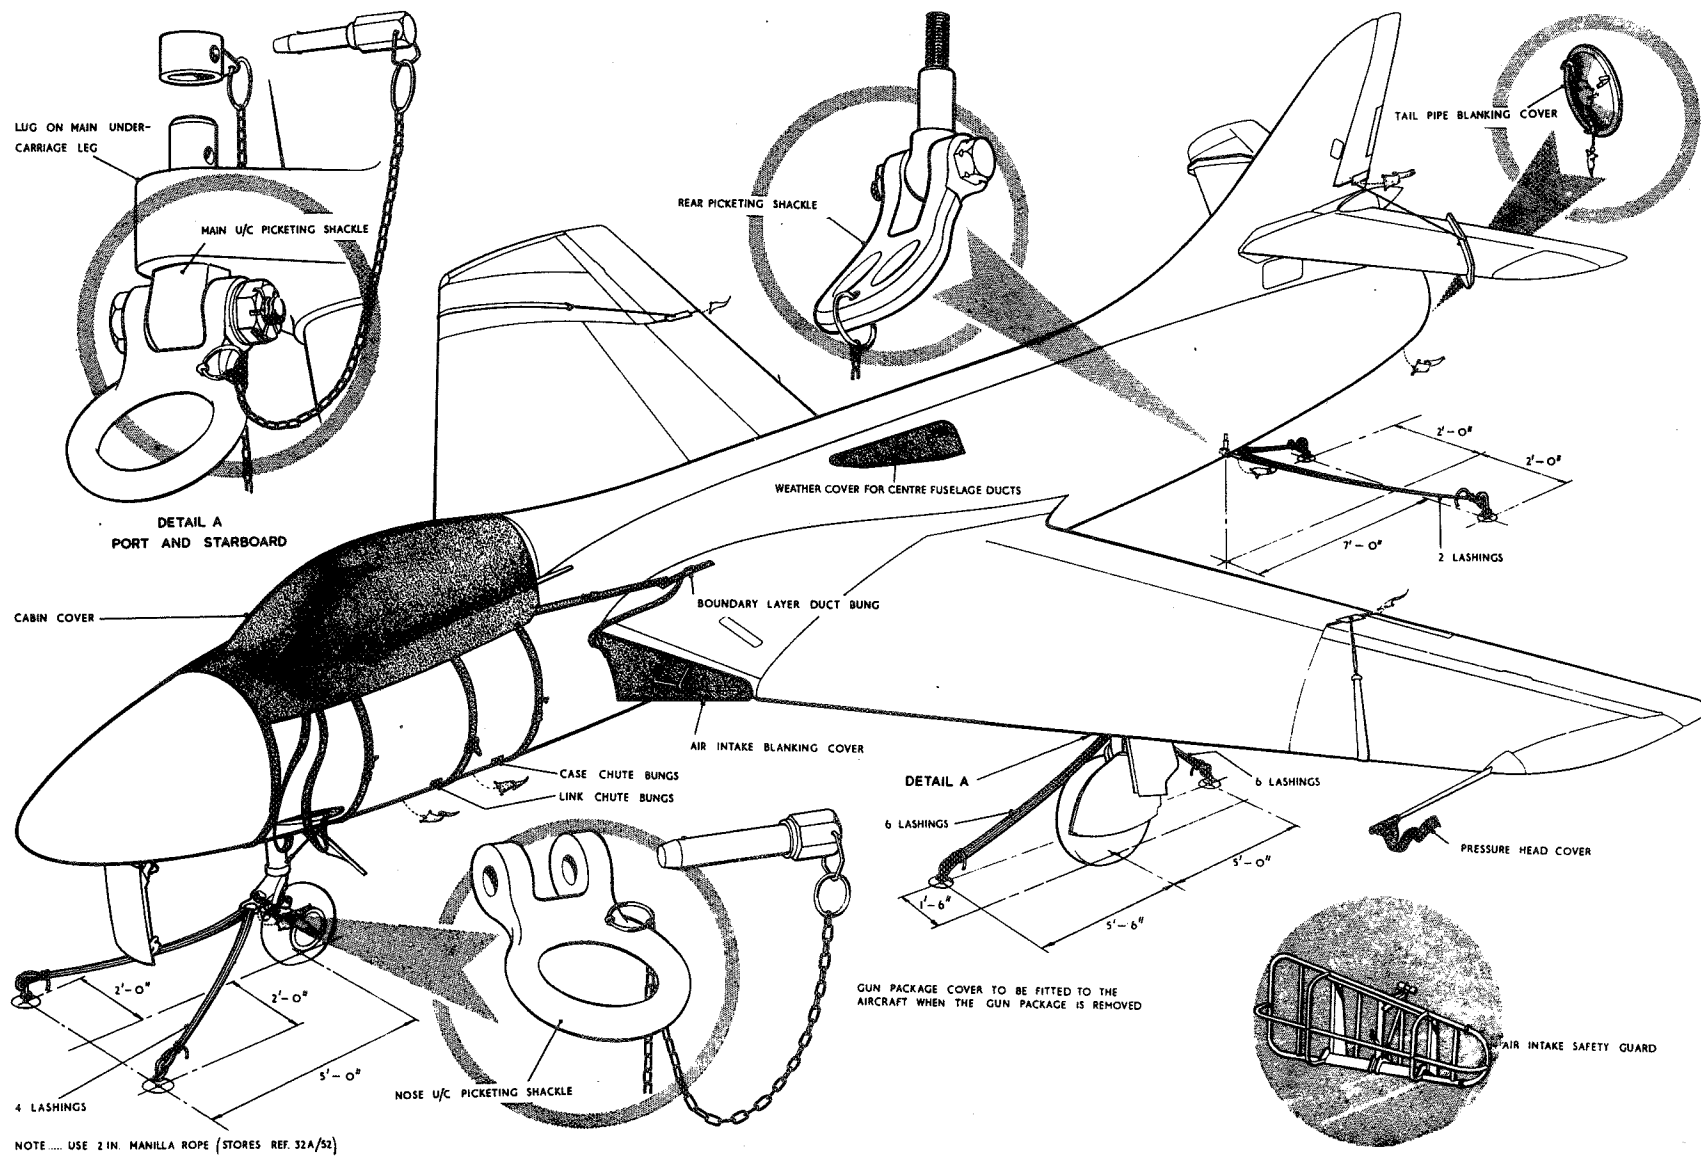

FIG. 3 PICKETING EQUIPMENT AND COVERS
**PICKETING (fig. 3)**
**AIR-INTAKE SAFETY GUARDS (fig. 3)**
**WEATHER COVERS (fig. 3)**